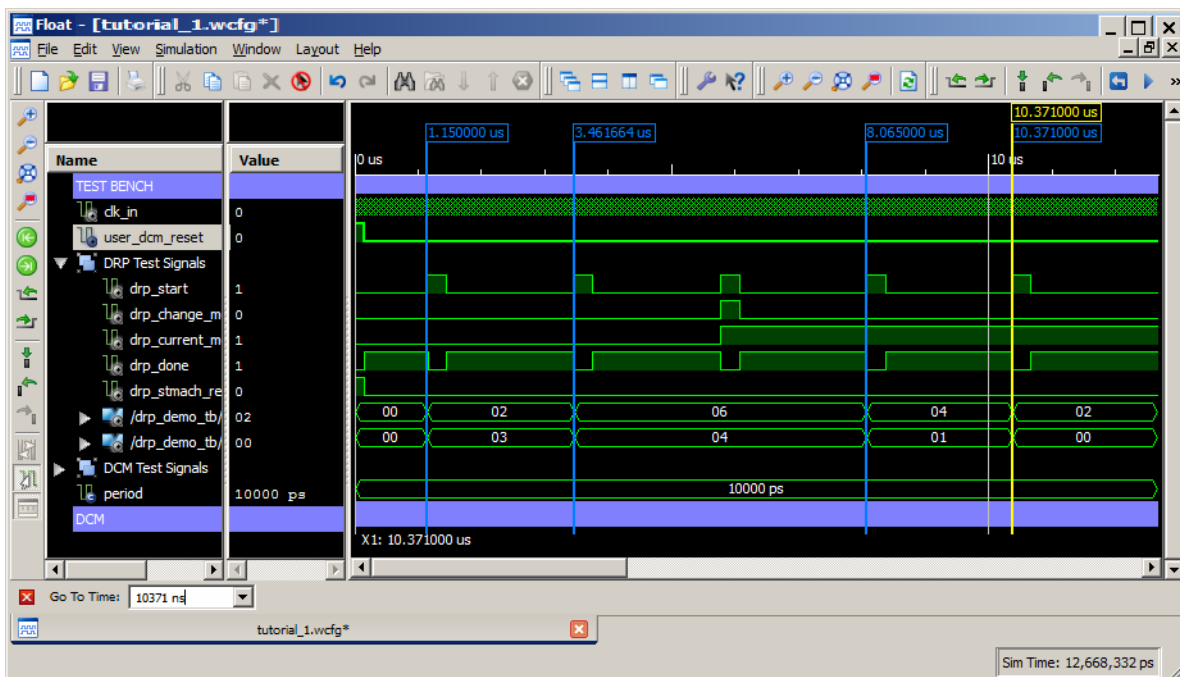

Figure 4-26: Using Markers to Identify Start of Tests
4. Repeat steps 2-3 for all four tests performed by the test bench. The Wave window should look similar to Figure 4-26.